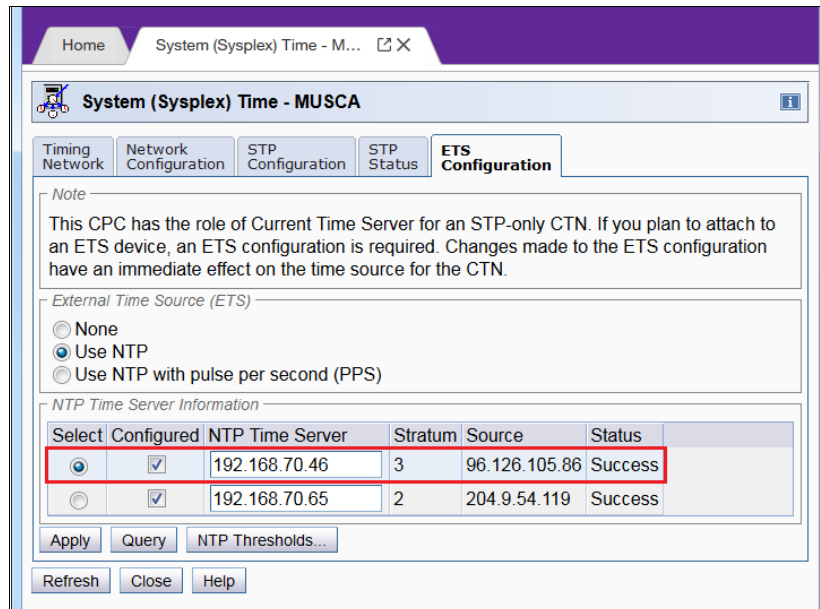

Figure 5-40 System (Sysplex) Time: ETS configuration
13. Click **Query** to test the defined NTP server definition, as shown in Figure 5-40.